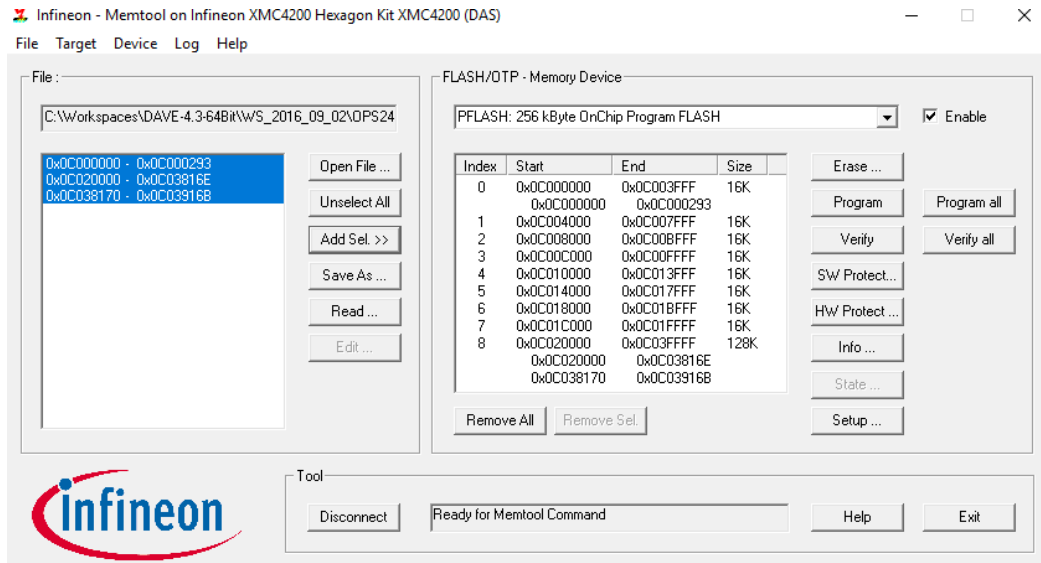

Figure 8. Files Ready to Program
**Step 6.** Pressing Add Sel>> will add the files to the window on the right side. The Program all button on the far right will now be available to press (Figure 8).